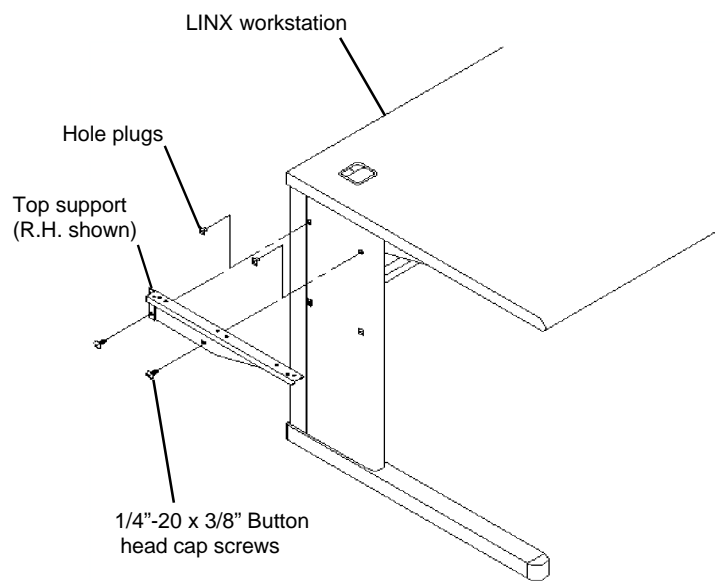

Figure 1
2. Assemble a **Top Support** to each workstation using the 1/4"-20 x 3/8" Button head cap screws provided. See **Figure 1**.